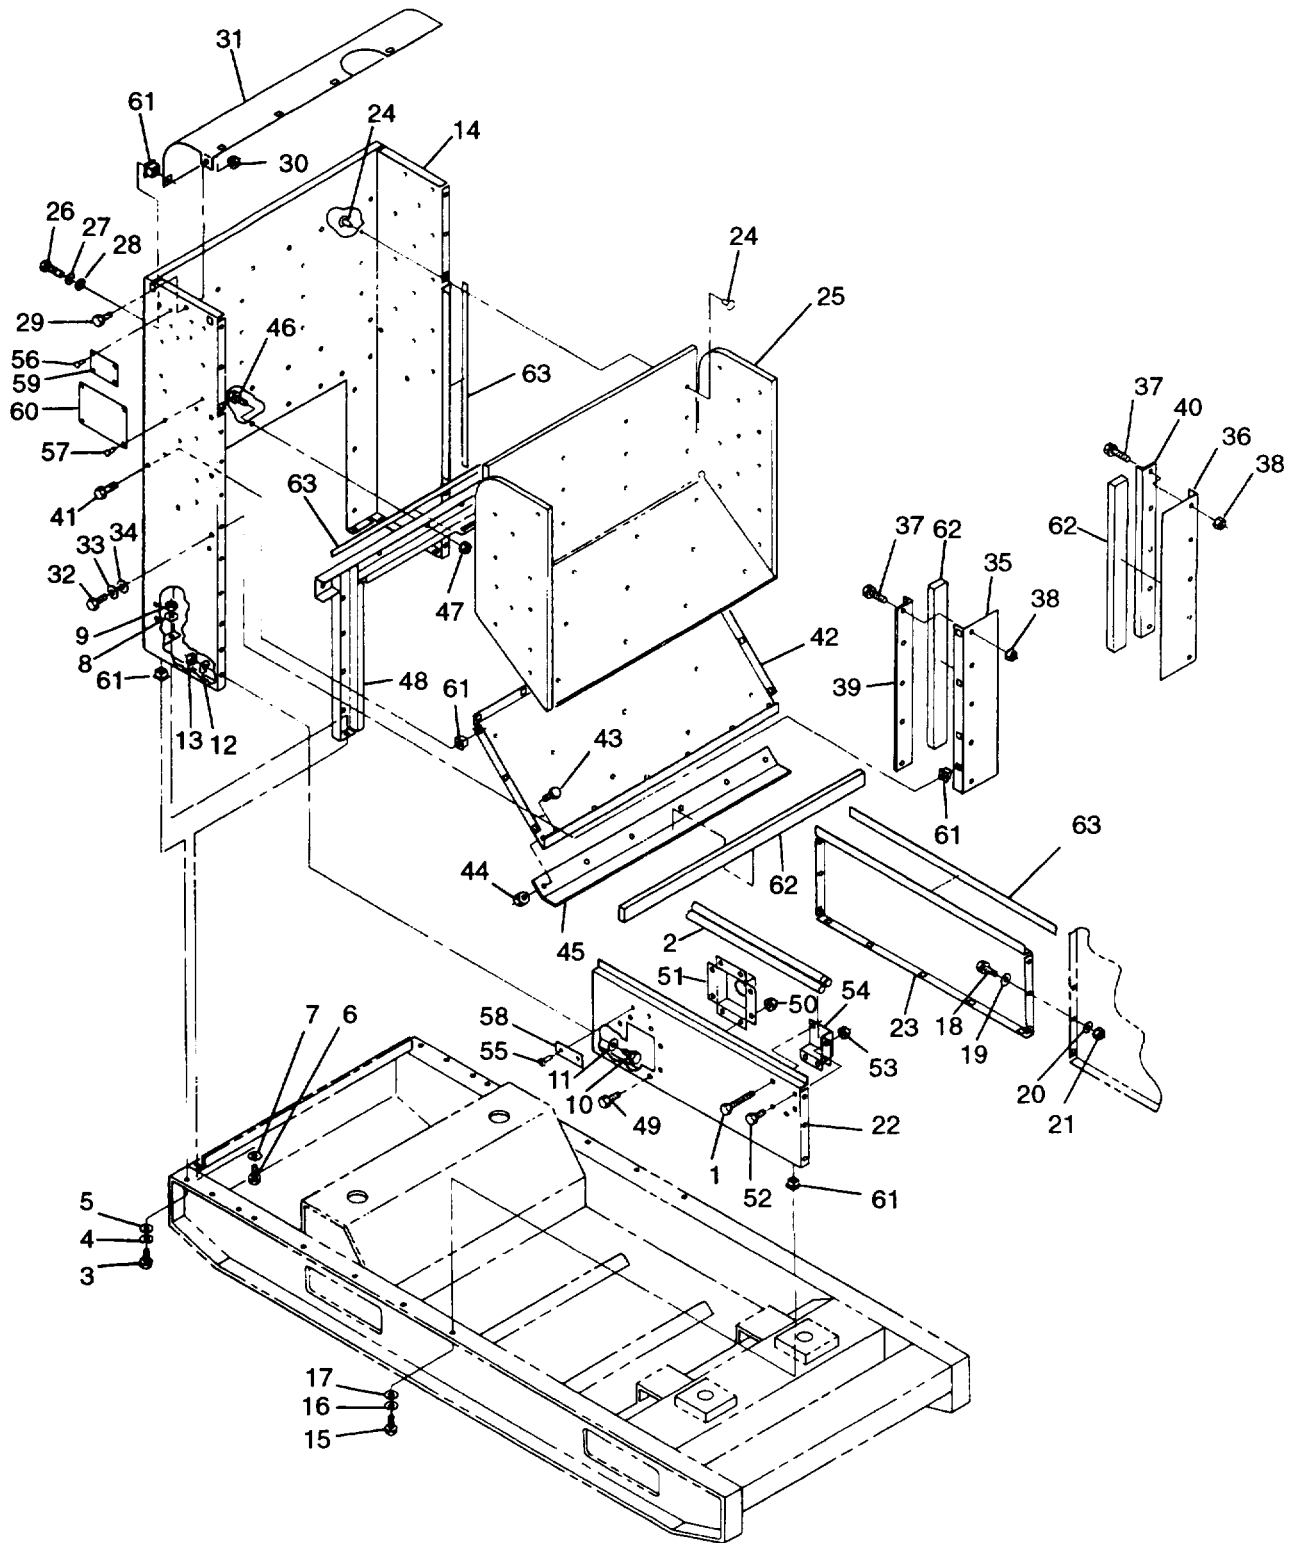

FIGURE 2-8. Generator Set front Housing Section
- c. Repaint surfaces in accordance with TM 43-0139. (F) Refer to applicable directives.
- d. Replace any cracked or stripped cage nuts (61, FIGURE 2-8).
- e. Replace damaged insulation and missing clip halves (24). Refer to Appendix D for fabrication of insulation.
- f. Replace loose or damaged seals (62) and (63).
- a. If removed, install identification plates (58, 59, and 60, FIGURE 2-8) on front panel (14) and side panel (22) with rivets (55), (56), and (57).
- b. Install brackets (54) on panels (14) and (22) with bolts (52) and assembled nuts (53).
- c. Install slave receptacle box (51) on side panel (22) with bolts (49) and assembled nuts (50).
- d. Install side panels (22) and (23) on generator set with bolts (15) and (18), flatwashers (17) and (19), lockwashers (16) and (20), and nuts (21).
- e. Install support channel (48) on front panel (14) with bolts (46) and assembled nuts (47).